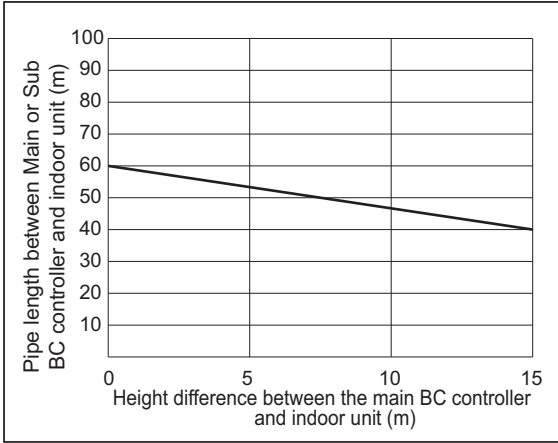

Fig. 2
When using indoor models P140 or larger, the restrictions shown in Fig. 2 cannot be exceeded.
*9. When the piping length or the vertical separation exceeds the limit specified in Fig. 2, connect a sub BC to the system.